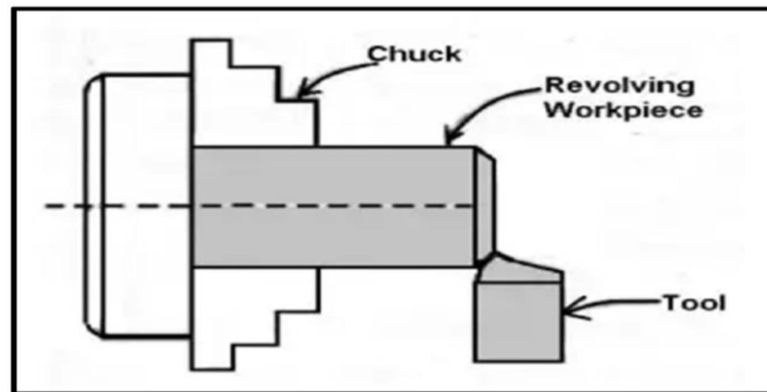

FIGURE 4.5
4.5 Which lathe operation is shown in FIGURE 4.5 below.